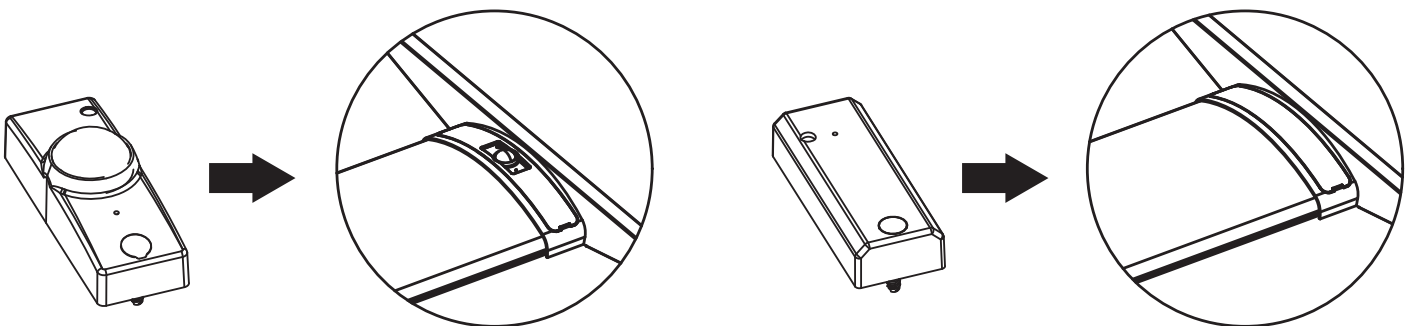

Fig. 5
5. Hook the safety cables into the holes on the end plates, and use the provided wire nuts to connect the wire leads of the troffer kits to the main power leads (Black-Live, White-Neutral, Green-Grounding). (See **Fig. 5, Fig. 5A**)
5. Hook the safety cables into the holes on the end plates, and use the provided wire nuts to connect the wire leads of the troffer kits to the main power leads (Black-Live, White-Neutral, Green-Grounding). (See Fig. 5, Fig. 5A)
4. Place sensor cover (included) to complete installation of sensor. (see Fig. 5)
Note: Appropriate sensor cover must be used for step 4. (see Fig. 5)